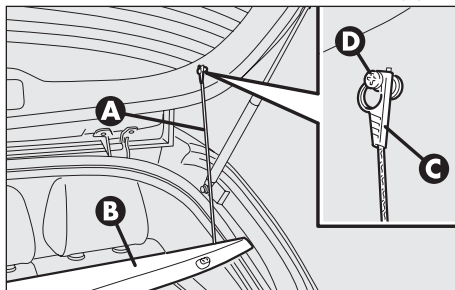

fig. 16
- free the ends of the two rods (**A-fig. 16**) supporting the parcel shelf (**B**) pulling the eyelets (**C**) off the pins (**D**);